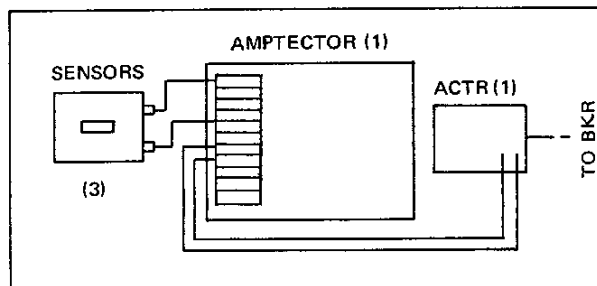

Figure 1
2. Schematically this may be represented as shown in Figure 1. This makes up a very flexible system covering a wide range of tripping characteristics. Not only is the Amptector adjustable but the sensors are available over a range of ratings. All necessary tripping energy is derived from the load current flowing through the sensors—no separate power supply is required.